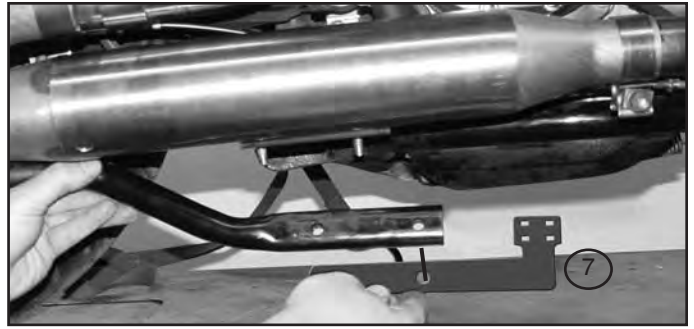

Figure 8
4. At front muffler location, position Cable Hanger Bracket (7) to inside of exhaust bracket. Finger tighten with stock nuts. **Figure 8.**